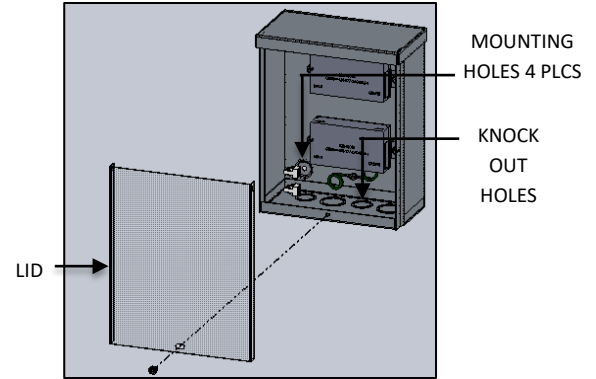

FIG. 9 – REMOTE DRIVER BOX INSTALLATION
2. Remove the lid of the REMOTE DRIVER HOUSING as shown in FIG. 9.